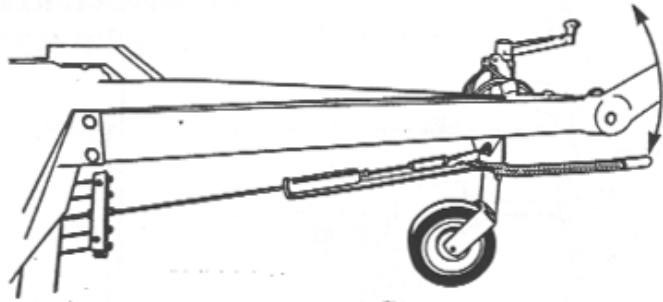

fig. 1
1. Stop the Bio-Shredder in the working position and lock the brake by pulling the brake lever (see Fig. 1).